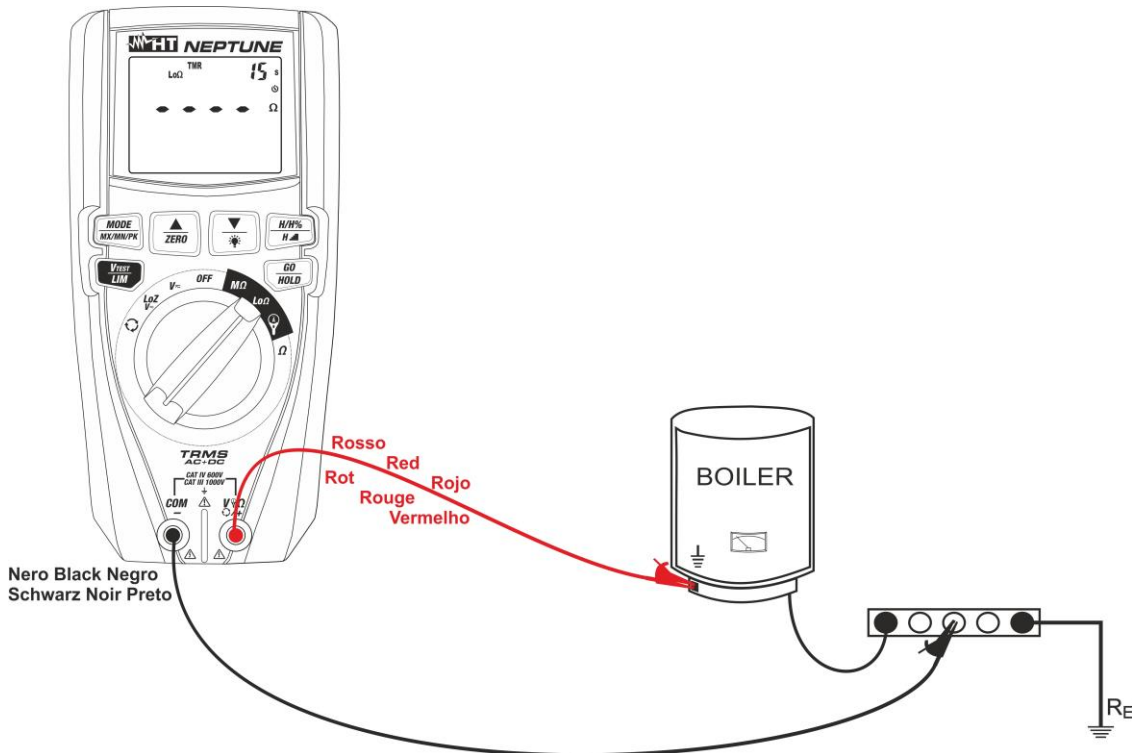

Fig. 29: Use of the instrument for continuity test in TMR mode
7. Insert the red lead into input terminal **V Ω /+** and the black lead into input terminal **COM/-**, and connect the instrument to the system to be tested (see Fig. 29).